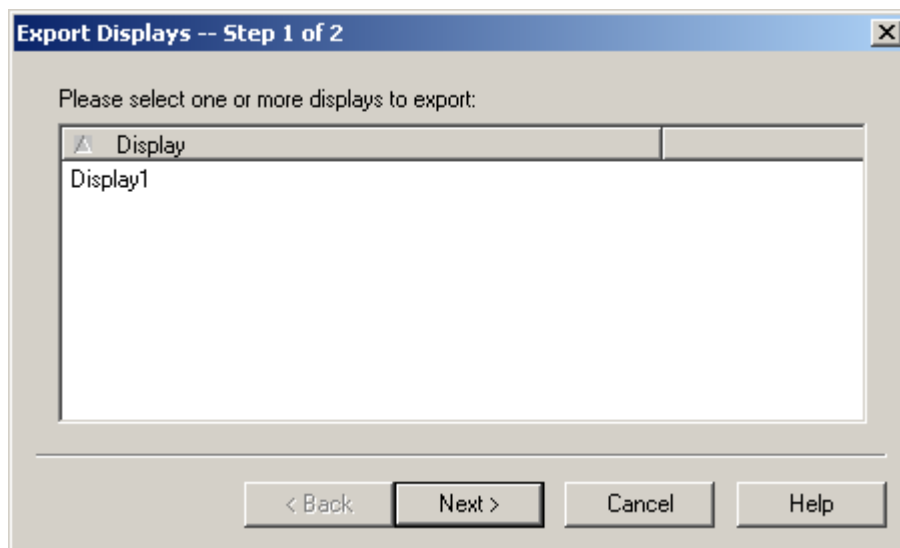
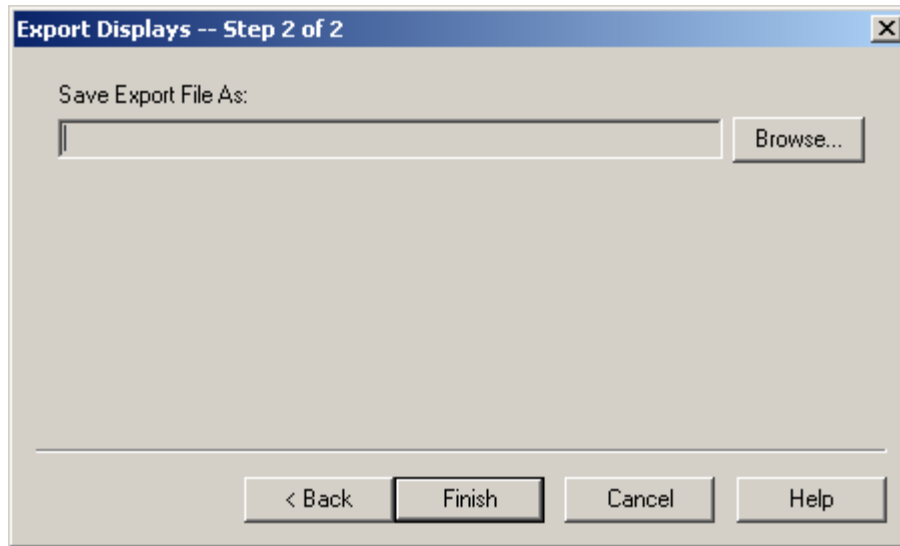

Figure 5 Export Displays (Step 1) Dialog
Figure 6 Export Displays (Step 2) Dialog
The Export Displays Dialog provides a way to export displays that you created with the Telemetry Processing application. There are two steps that need to be completed when exporting displays: (1) identify the displays to export and (2) identify the location where the exported displays file should be stored. The Export Displays (Step 1) dialog is shown in Figure 5 below. This dialog is used to identify the displays to export. You can select one or more displays to export. All the displays are exported (stored) in a single file. This file can be used to import displays from one Telemetry Processing configuration into a different Telemetry Processing configuration. Once you have finished selecting one or more displays to export, you push the Next button. This will take you to the Export Displays (Step 2) Dialog shown in Figure 6 below. The Export Displays (Step 2) Dialog provides a way to identify the location to store the exported displays file. You can use the Browse button to select a location without typing. Once you have entered the location into the “Save Export File As” field push the Finish button to complete the export process.